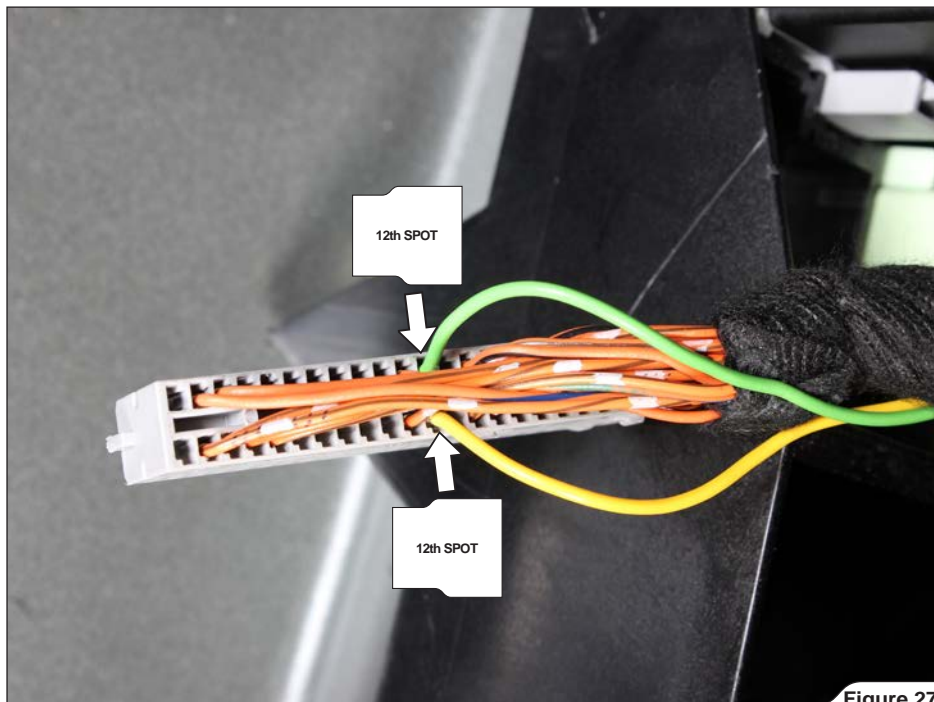

Figure 27
- !** **IMPORTANT:** make sure, that you plug in the wires, as follows (Figure 27, 28, 29):